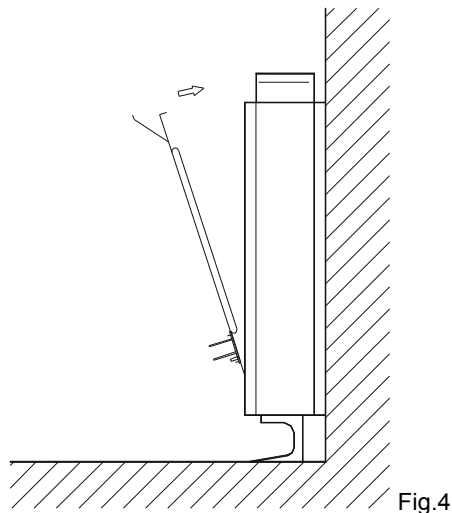

Fig.4
10.- Refit the inner front panel. If the bricks have been fitted correctly you will find no difficulty in refitting the panel (fig 4).